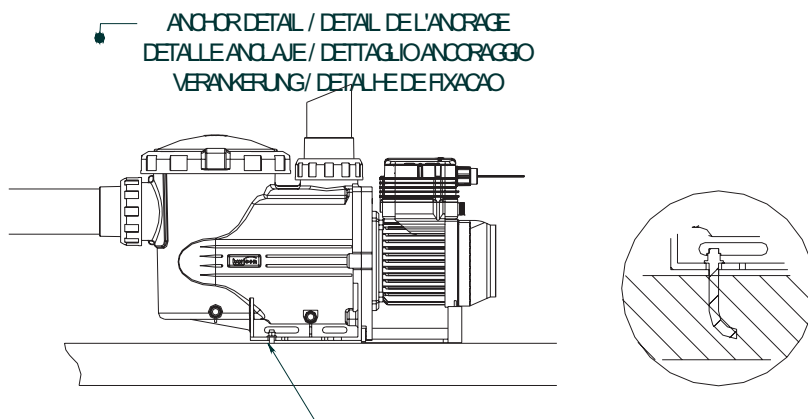

Fig. 2
- To connect the piping, glue the pipes and the connectors, supplied together with the pump; the fitting connections to the suction and return ports on the pump are threaded and include seals to prevent water loss (Fig. 2).
- Fit the return pipes completely perpendicular and centred in relation to the port to be connected to prevent the pump and the pipe from being subjected to external stress that, apart from making fitting difficult, could break them (Fig. 2).
- Fit the suction piping on a slight 2% slope towards the pump to avoid the formation of air pockets (Fig. 2).